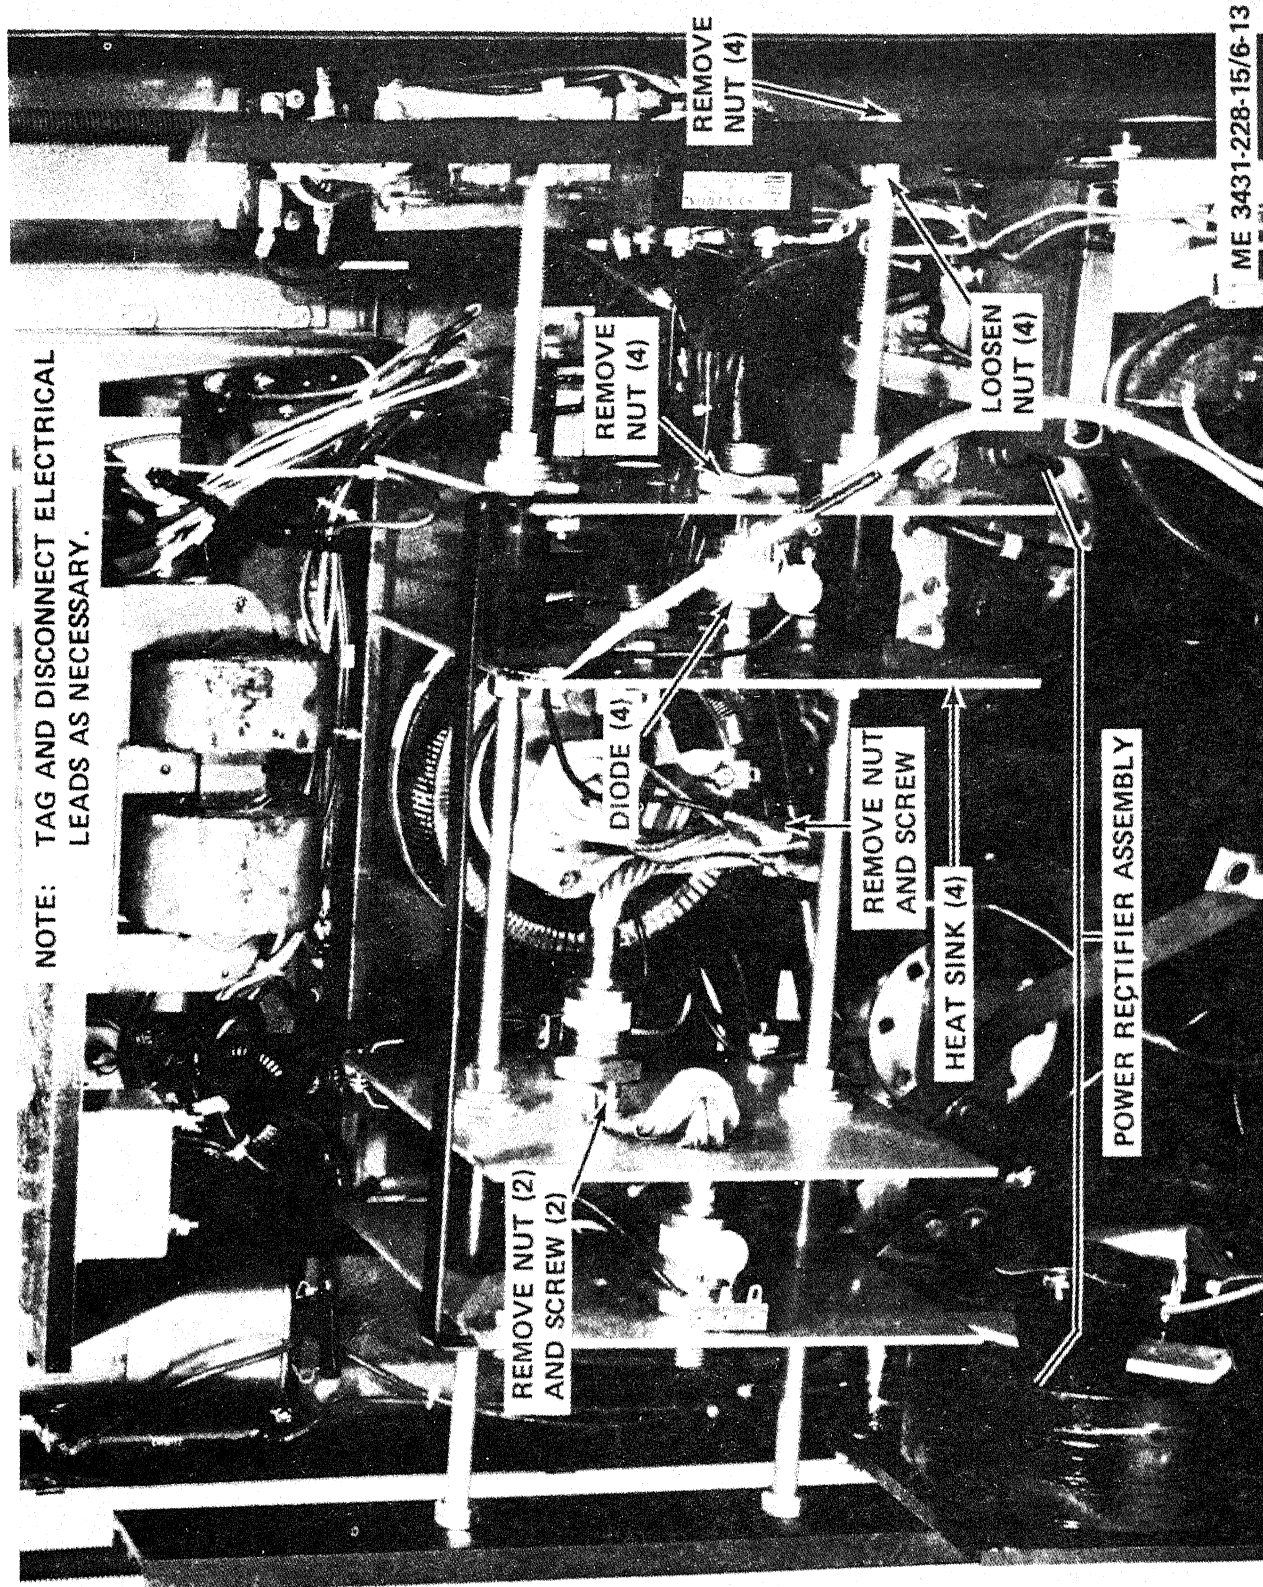

Figure 6-13. Power rectifier assembly, diodes CR4 - CR7, removal and installation.
- (1) Remove the top and housing from the welding machine (para 3-20).
- (2) Refer to figure 6-13 and remove the power
- (1) Refer to figure 6-13 and install the diodes and install the power rectifier assembly.
- (2) Install the top and housing (para 3-20).